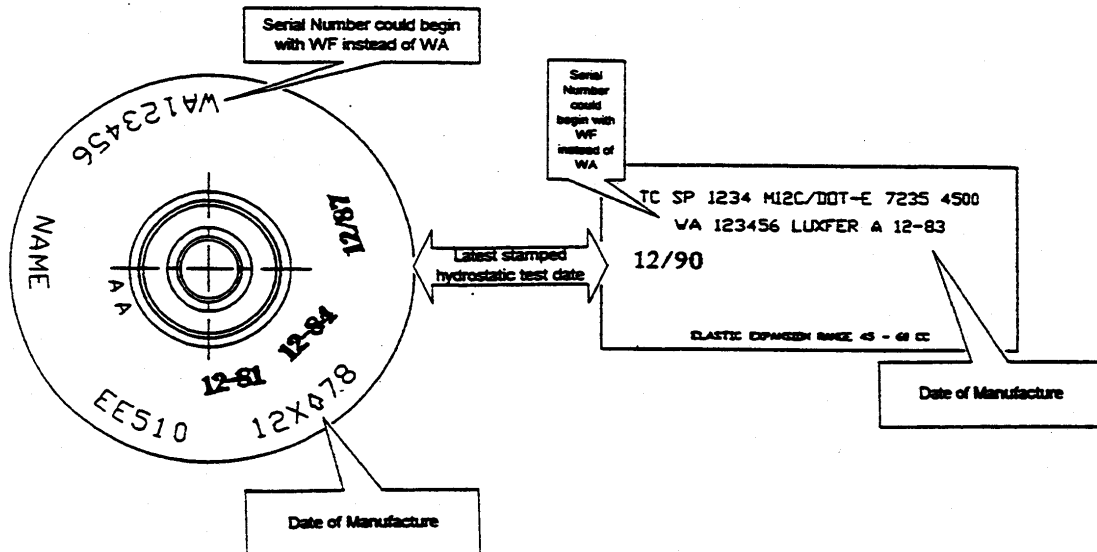

Figure 3. Hydrostatic Test Date Location
- No more than three years have elapsed since the latest stamped hydrostatic test date. Hoop wrapped cylinders may have the retest markings stamped on the top head of the cylinder or placed on a label securely affixed to the cylinder and overcoated with epoxy. See Figures 3 and 4.
- No more than 15 years have elapsed since the date of manufacture. See Figures 3 and 4.